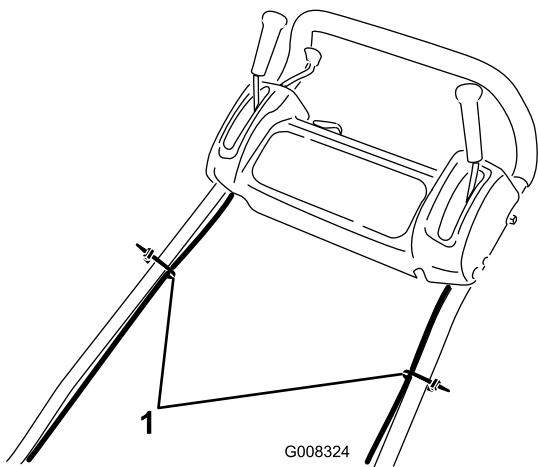

Figure 4
- Secure the cables to the handle with cable ties (Figure 4).